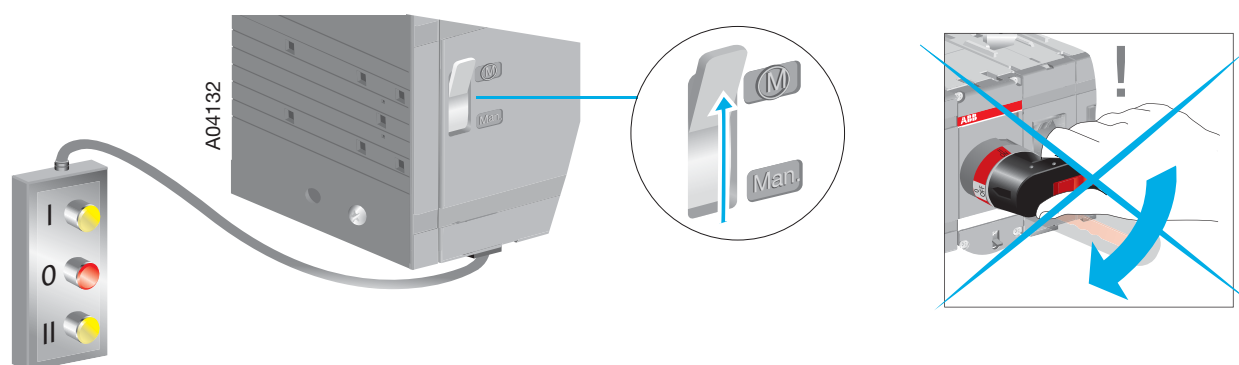

Figure 6.2 Motor/Manual selection switch in the Motor (M) position
2. Turn the Motor/Manual selection switch to the Motor (M) position, see Figure 6.2.